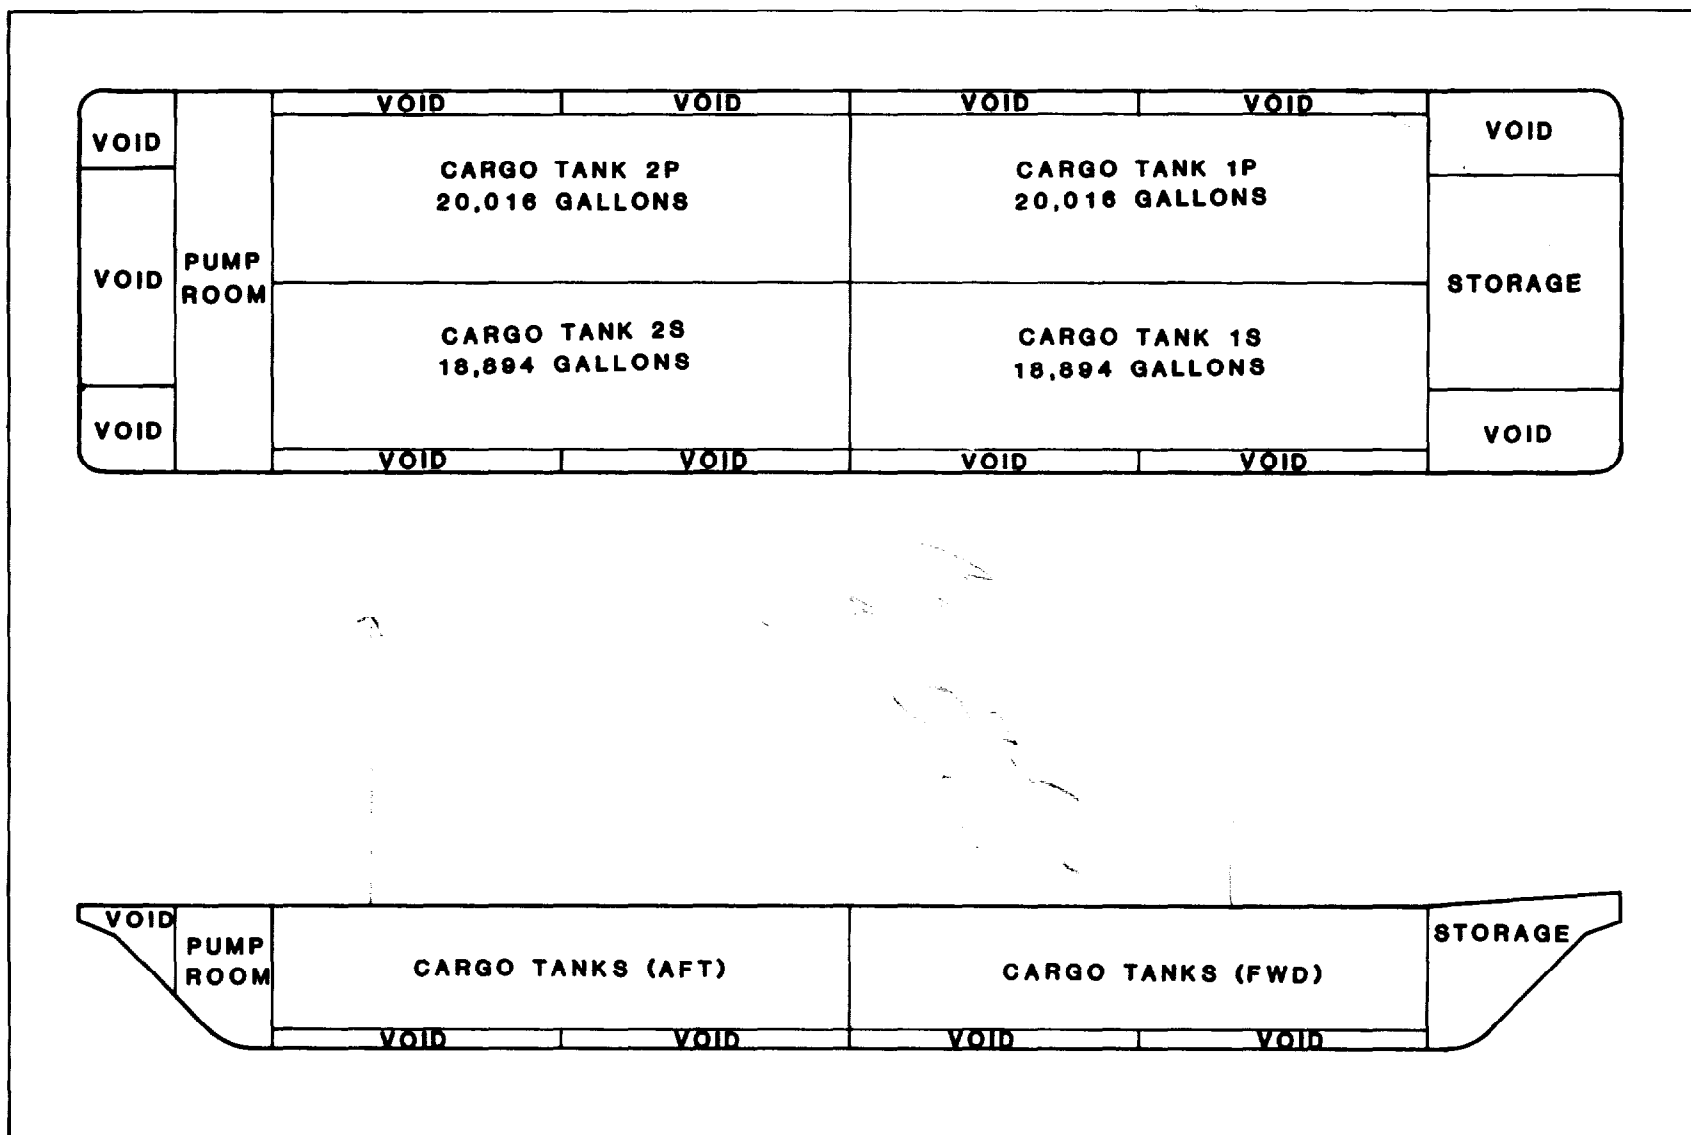

FIGURE 2-1
2.1.1 HULL. The barge hull was constructed according to the American Bureau of Shipping standard "Al Oil Barge, River and Intercoastal Waterways Service". The barge is double hulled to provide void spaces under and outboard of each cargo tank. Bow and shell framing have been increased in strength to resist slamming loads. Figure 2-1 shows the arrangement of the four cargo tanks, the void spaces, and machinery spaces. The barge particulars are as follows: